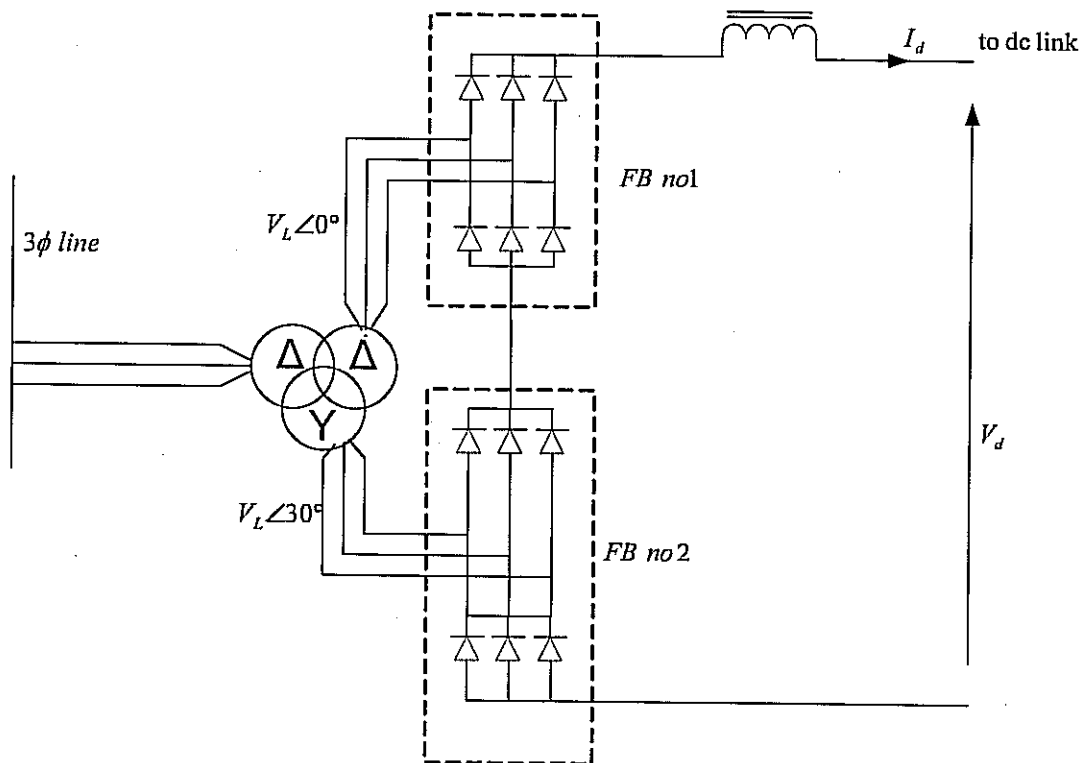

Fig Q6
- Q6. Figure Q6 shows the circuit arrangement of a dual bridge series diode converter used for HVDC transmission.